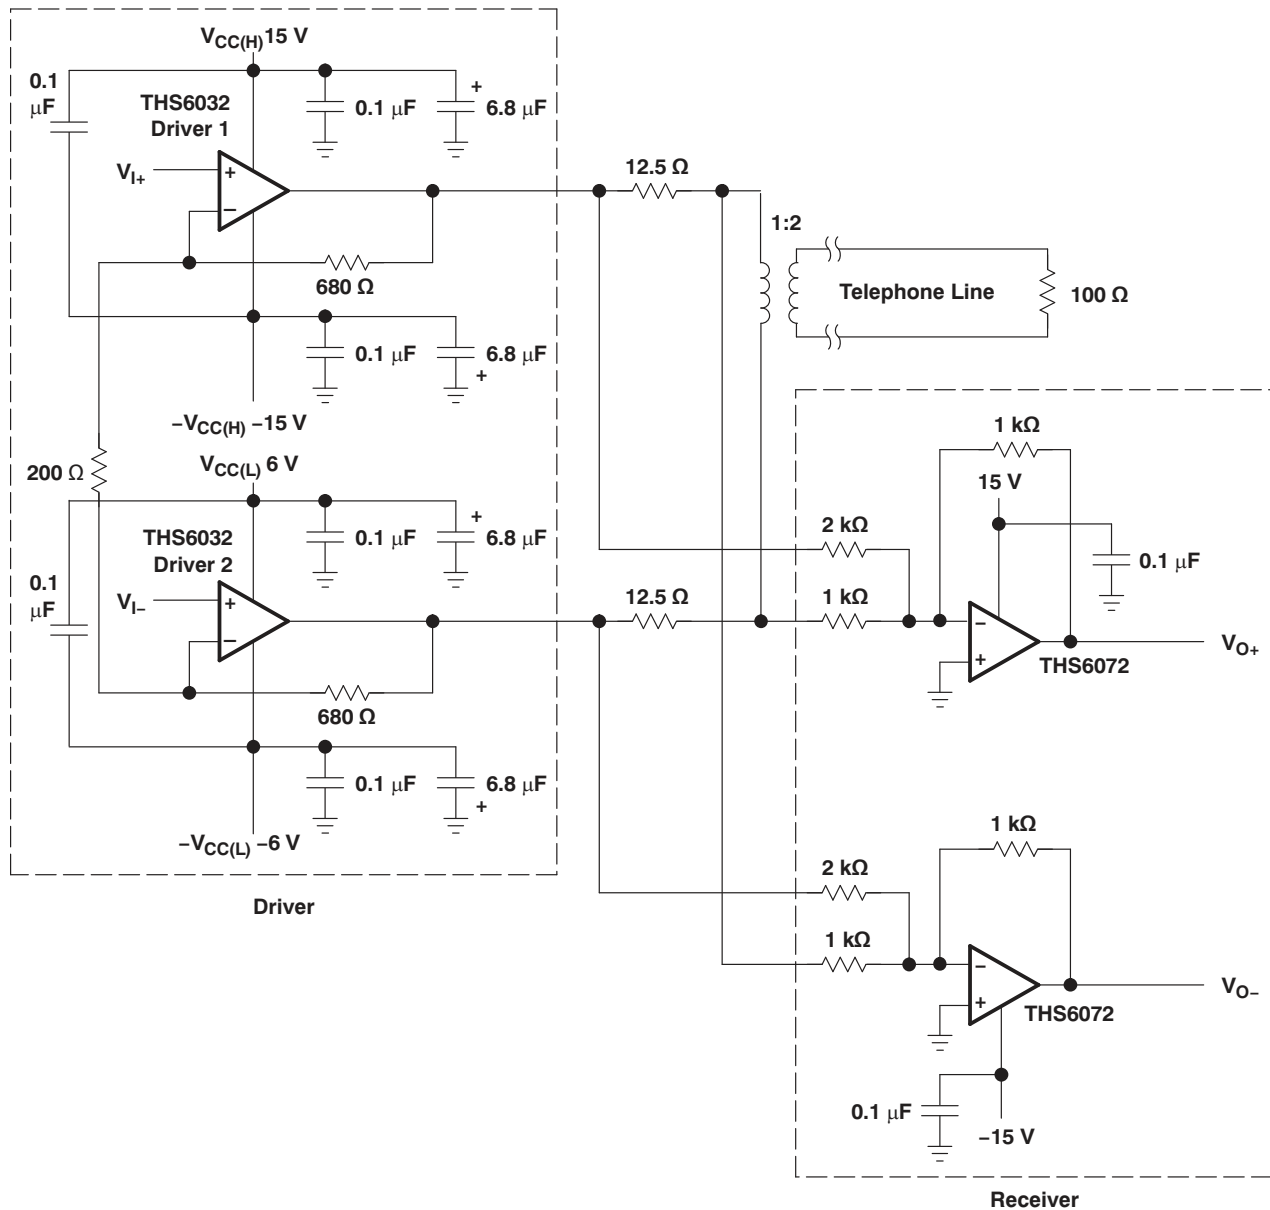

Figure 36. THS6032 ADSL Application
The THS6032 was primarily designed as a low-power line driver for ADSL (asymmetrical digital subscriber line). The driver output stage has been sized to provide full ADSL power levels of 20 dBm onto the telephone lines. Although actual driver output peak voltages and currents vary with each particular ADSL application, the THS6032 is specified for a minimum full output current of 400 mA at its full output voltage of approximately 11 V. This performance meets the demanding needs of ADSL at the central office end of the telephone line. A typical ADSL schematic is shown in Figure 36.
- Differential power supply decoupling – The THS6032 was designed to drive low-impedance differential signals. The 25- Ω load that each amplifier drives causes large amounts of current to flow from amplifier to amplifier. Power-supply decoupling for differential-currents must be provided to ensure low distortion in the THS6032. By simply connecting a 0.1- μ F ceramic capacitor from the $+V_{CC(H)}$ pin to the $-V_{CC(H)}$ pin, along with another 0.1- μ F ceramic capacitor from the $+V_{CC(L)}$ pin to the $-V_{CC(L)}$ pin, differential current loops will be minimized (see Figure 36). This will help keep the THS6032 operating at peak performance.
The THS6032 incorporates a shutdown circuit to conserve power. Traditionally, when an amplifier is placed into shutdown mode, the input and output circuitry are turned off. This conserves a large amount of power, but the output impedance will be a very high, typically greater than several k Ω . This situation does not maintain proper line termination, resulting in a severe reduction of the receive signal coming through the transmission line (see Figure 36).